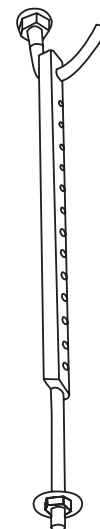

Fig. 4.4
4. Install four suspension bolts (See Fig. 4.4).